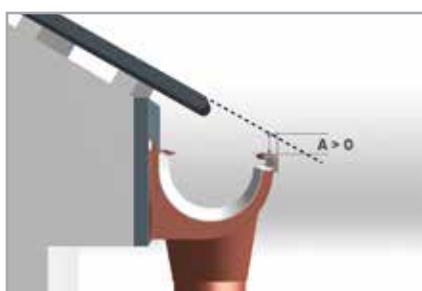

Fig. 1
- 1.4 The gutter should be positioned in relation to the roof end, so that the theoretical line drawn as its extension passes over the outer edge of the gutter (see the example application in **(Fig. 1)** and that rainwater falls into the gutter. If due to the construction of the roof, the line passes below the outer edge of the gutter, snow fences should be installed on the roof to protect the gutter from damage caused by sliding or piled up snow.